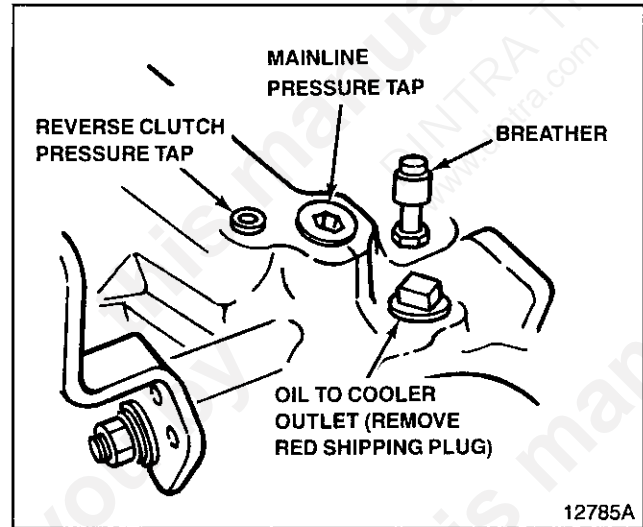

Figure 8. Oil Outlet to Cooler
- Connect oil line to oil cooler outlet (See Figure 8).